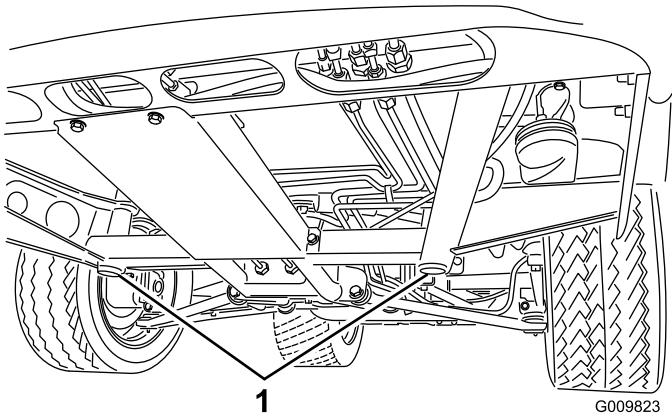
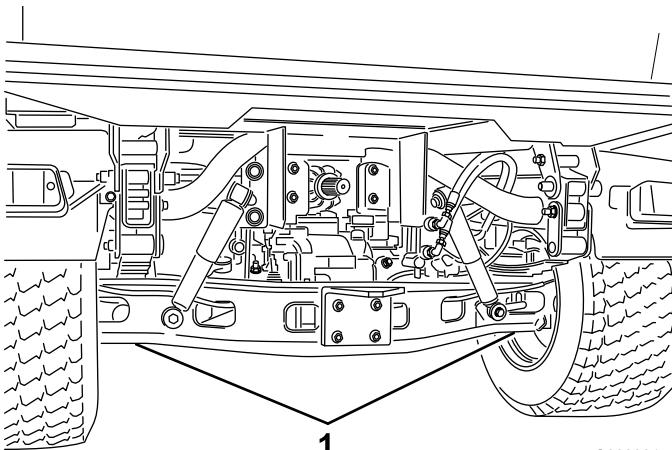

Figure 30
Figure 31
- The jacking point at the front of the machine is under the front center frame support (Figure 30) and at the rear it is under the axle (Figure 31).